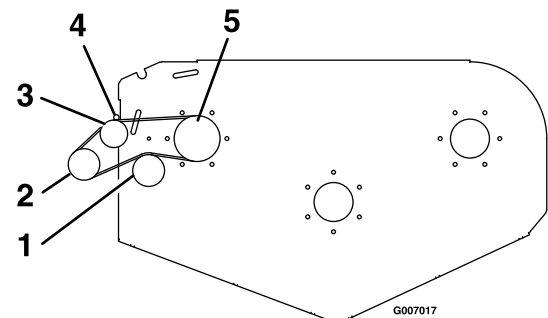

Figure 13
- B. Pull the spring loaded idler release handle back and install the belt in the upper groove of the top spindle sheave. The belt should be routed as shown in Figure 13.